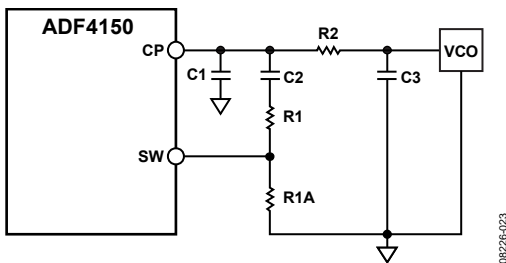

Figure 24. Fast Lock Loop Filter Topology—Topology 1
- The damping resistor (R1) is divided into two values (R1 and R1A) that have a ratio of 1:3 (see Figure 24).